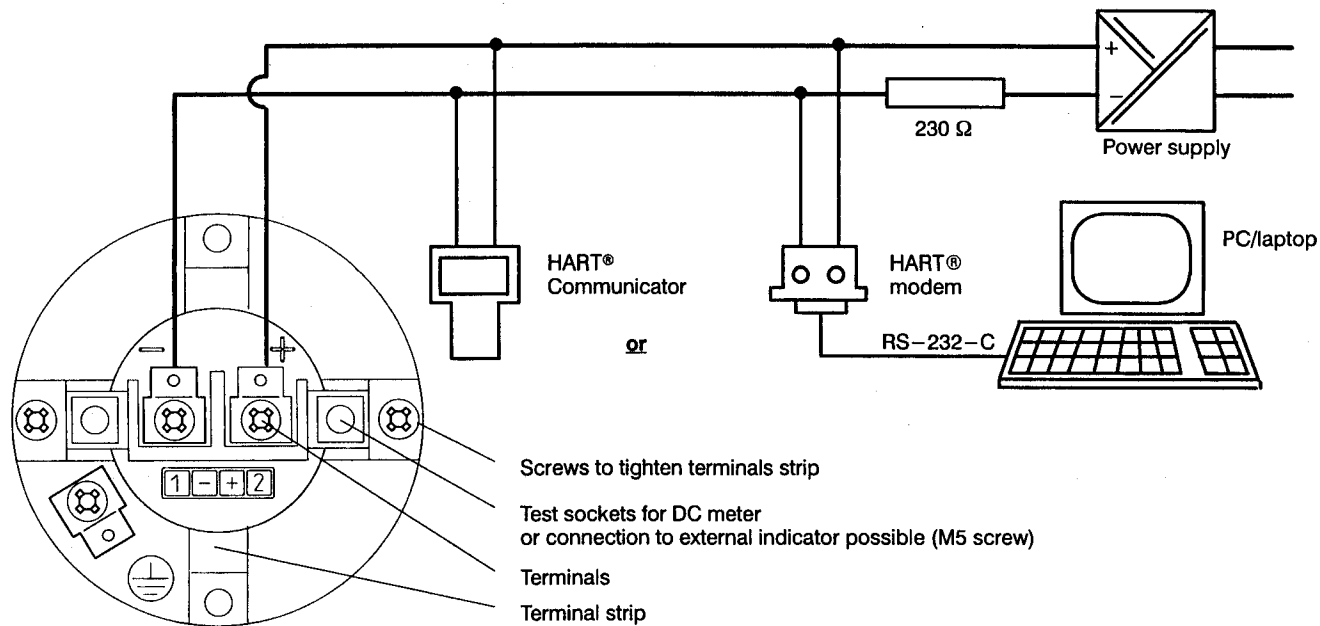
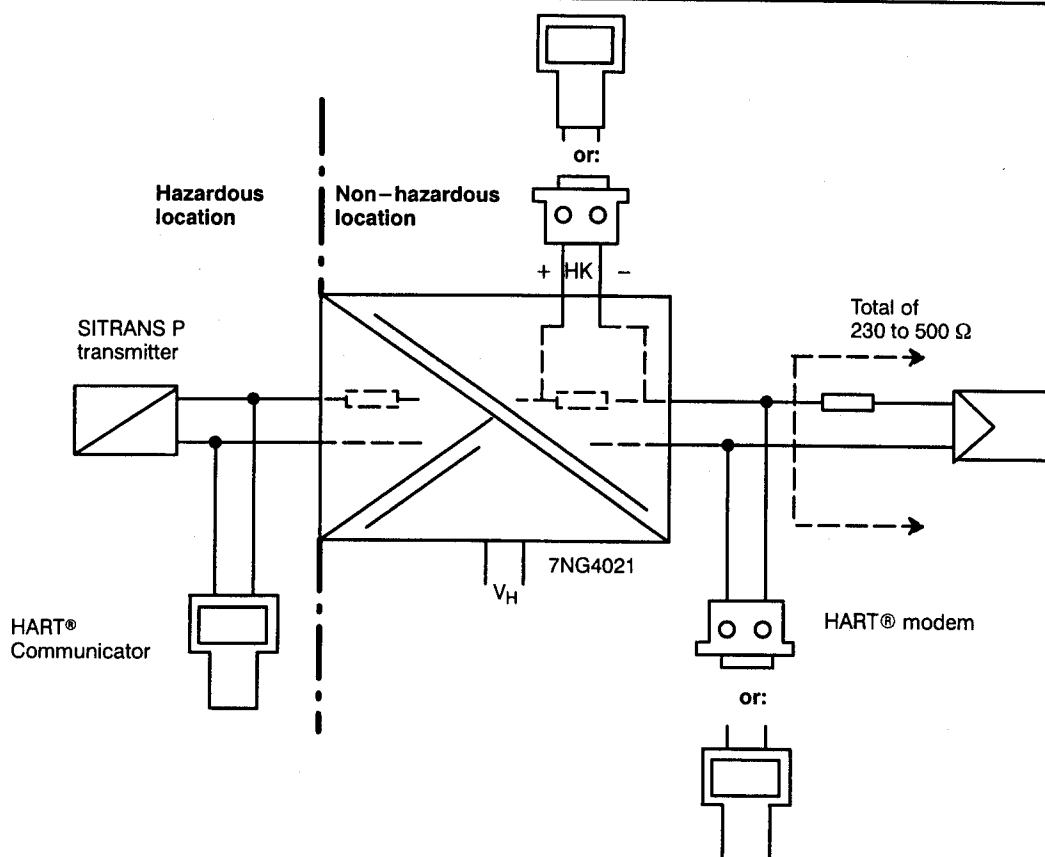

Figure 2.4 Electrical connection schematic
Figure 2.5 Electrical connection with power supply isolator for Smart transmitters
- The terminal strip (Fig. 2.4) can be screwed on to four different positions ($\pm 90^\circ$ or $\pm 180^\circ$ rotation possible). Please notice that the rotation is limited to $\pm 180^\circ$ (proceeding from the fixed position as on delivery).
A faultless communication requires at least a load of 230 Ω within the signal circuit (see Fig. 2.4), when using power supply isolators for Smart transmitters, e.g. Siemens 7NG4021, a load has already been assembled (see Fig. 2.5). The power supply isolator with intrinsic safe input circuit (transmitter circuit) also separates safely between intrinsically safe and not-intrinsically safe circuit. The HART® modem or the HART® Communicator can be connected to the jacks marked HK (see Fig. 2.5).
The HART®-Communicator must be connected to the transmitter (see Fig. 2.4 and 2.5).